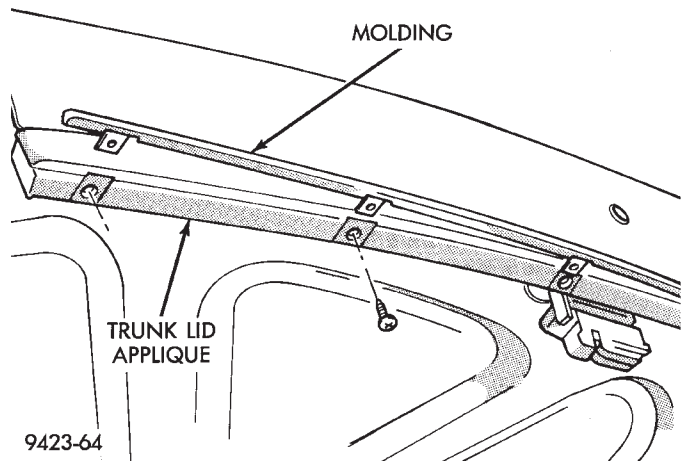

Fig. 8 Trunk Lid Applique Molding
- (1) Release trunk latch and open trunk.
- (2) Remove screws holding molding to applique (Fig. 8).
- (3) Separate molding from applique.